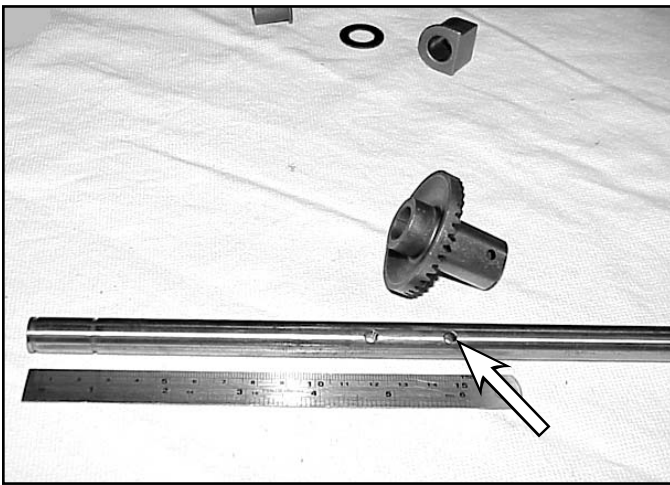

Fig 052
1. The same axle is used for both front and rear drive versions. There are two holes in the axle about one inch apart. Front wheel drive transmissions use the hole in the axle that is about $5\frac{3}{4}$ " (14.6cm) from the end or closest to the center of the axle (Fig. 052).